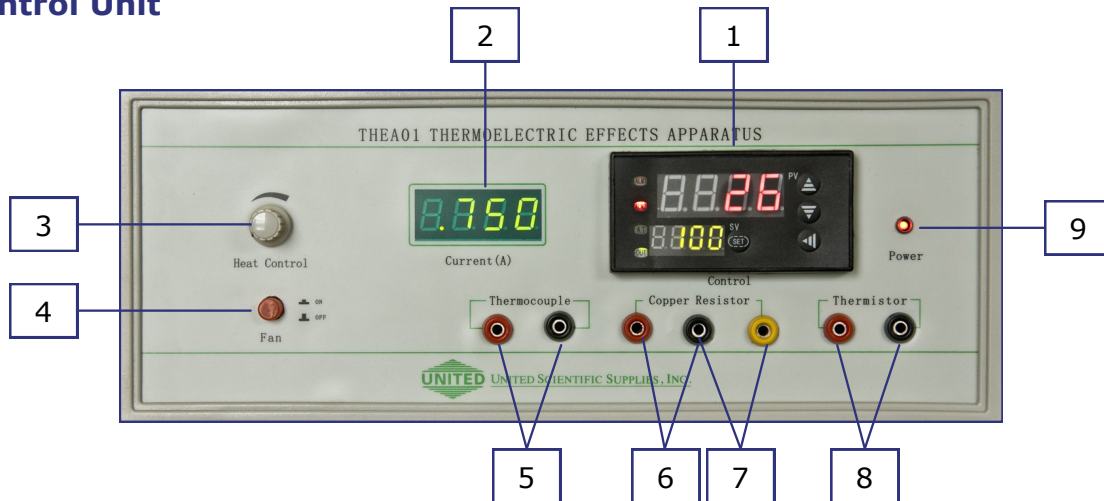

Figure 4
Figure 4 shows the front panel of the control unit:
- The heater cartridge in the heating block is powered by a highly stabilized voltage source in the control unit. The output voltage is set by a 10-turn potentiometer (3, *Figure 4*), and the resulting heating current is displayed on the control unit front panel (2, *Figure 4*).
- The cooling fan is independent of the control system and is switched on and off manually with a button on the control unit front panel (4, Figure 4).
- Before changing the set temperature for the first time after turning the unit on, position the heat control potentiometer (3, Figure 4) approximately at its midpoint. This prevents an excessively large heating current from flowing when the controller first turns it on. The desired heater current can be set after the first set temperature is implemented and the controller turns the current on.